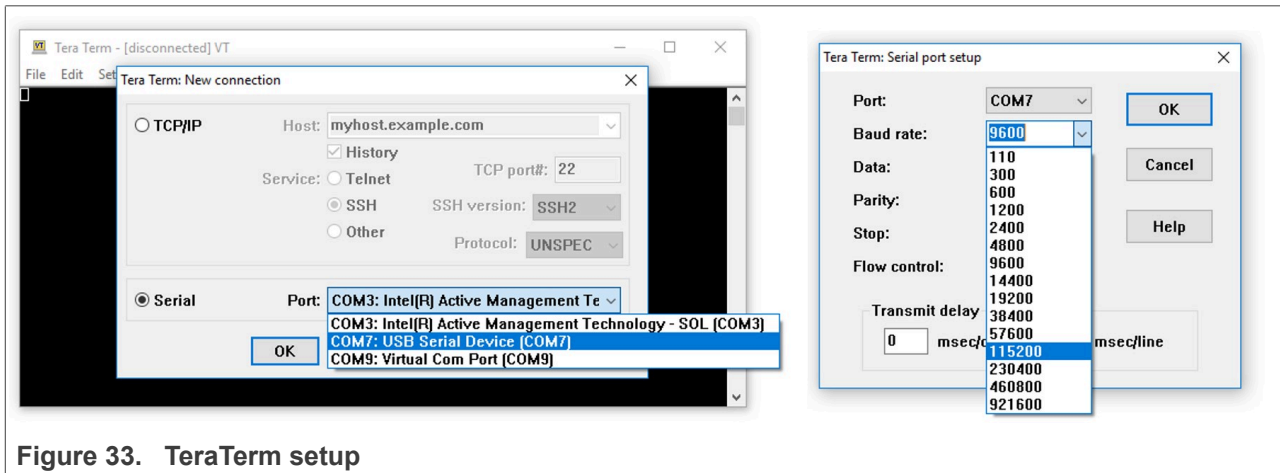

Figure 33. TeraTerm setup
2. Launch and setup TeraTerm application as shown in Figure 33: